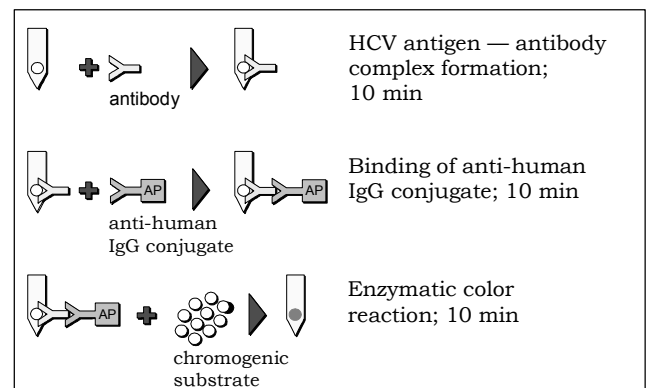

Figure 1. Principle of the Test
To start the test, serum or plasma specimens are added to the diluent in the wells of row A of the Developing Plate. The Card is then inserted in the wells of row A. Anti-HCV antibodies, if present in the specimens, will specifically bind to the HCV antigens on the lower and middle spots on the teeth of the Card (Figure 1). Unbound components are washed away in row B. In row C, the anti-HCV IgG captured on the lower and middle spots of the teeth, and the human immunoglobulin on the upper spots (Internal Control), will react with anti-human IgG antibodies labeled with alkaline phosphatase (AP). In the next two rows, unbound components are removed by washing. In row F, the bound alkaline phosphatase will react with chromogenic components. The results are visible as gray-blue spots on the surface of the teeth of the Card.